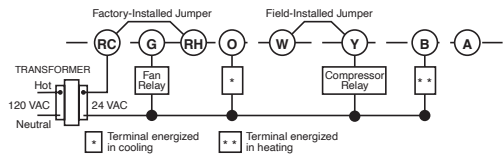

Figure 4. Typical wiring for single transformer, single stage heat pump system
- Electric heat or single stage heat pump systems:** These thermostats are configured from the factory to operate a heat/cool, fossil fuel (gas, oil, etc.) forced air system. This is correct for any system that DOES NOT require the thermostat to energize the fan on a call for heat. If your system is an electric heat or heat-pump system that **REQUIRES** the thermostat to turn on the fan on a call for heat, remove the yellow factory-installed jumper wire from the **Y** terminal and connect it to the **A** terminal. This will allow the thermostat to energize the fan immediately on a call for heat. If you are unsure if the heating system requires the thermostat to control the fan, contact a qualified heating and air conditioning service person. For single stage heat pump applications (no auxiliary heat), install a short jumper wire (not included) across terminals **W** and **Y**. If the system has a reversing valve connection energized in Cooling, attach it to **O**. If the system has a reversing valve connection energized in Heating, attach it to **B** (see Fig. 4). This thermostat will not provide multi-stage heating or cooling.